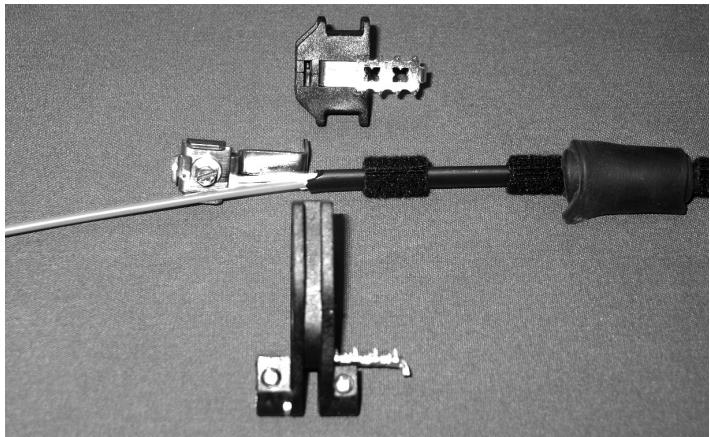

Figure 7
- Position the cable retention device so that the teeth of the retention clips are on top of the black felt tape applied in Step 6 (Figs. 7 and 8).